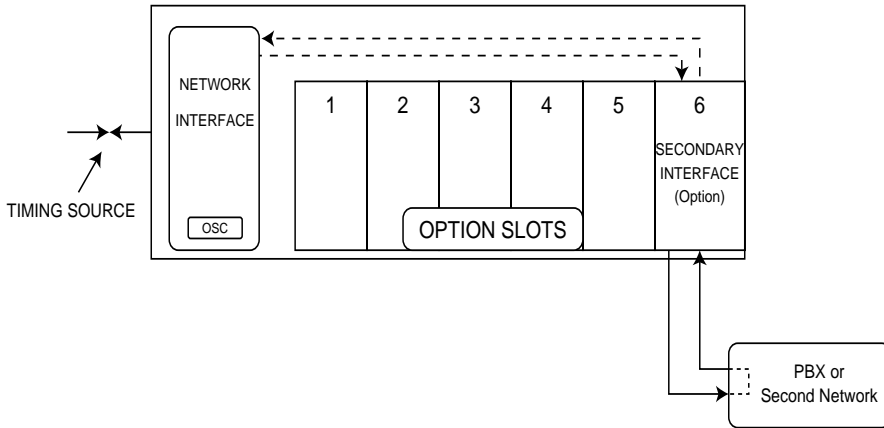

Figure 1-8
The typical timing option arrangement is shown in Figure 1-8. The PBX is looped timed sending data to the TSU 100 which is actually synchronous to the received data. The Network Interface (NI) is the actual source of all timings. This timing option is the same as that typically used for CSUs. This is the preferred mode for use with a PBX application.